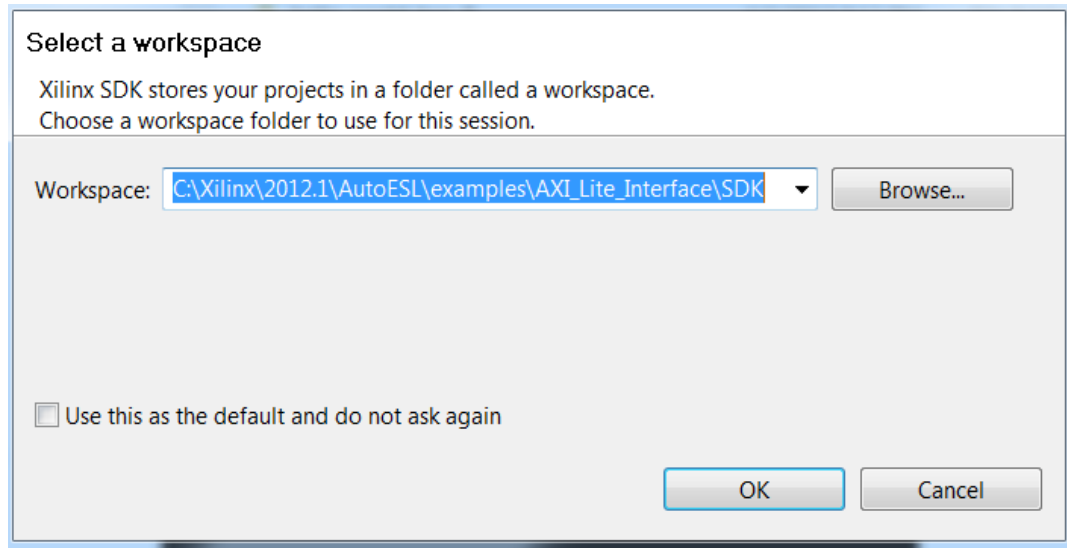

Figure 1-21: Select a Workspace
- From the Workspace Launcher window, use the **Browse...** button to select a directory location for your workspace and click **OK**, as shown in Figure 1-21.